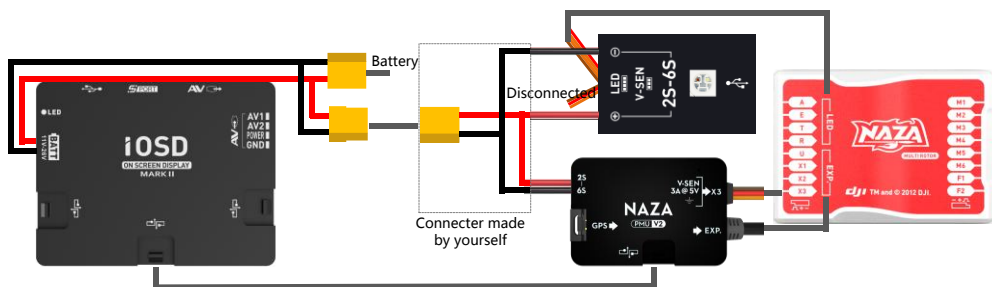

Fig.1 Connection between iOSD and NAZA-M
- (1) NAZA-M (Fig.1): Make a connector to connect the PMU V2 (NAZA-M V2 Accessory), iOSD, VU and battery.